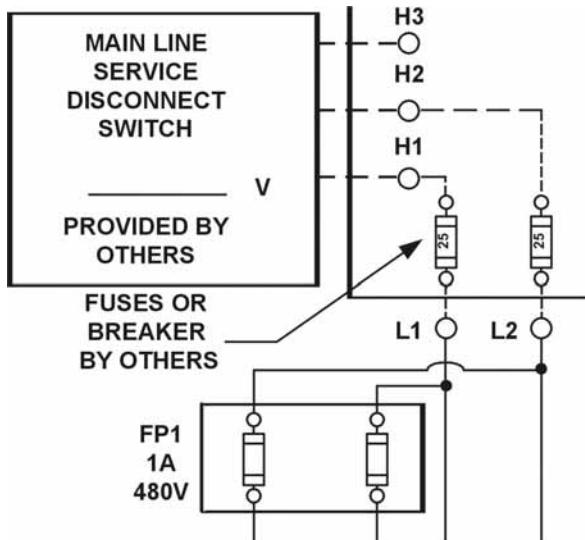

Figure 3-4
- 4) The fourth circuit is a separate fused circuit from the primary side of the power transformer terminals L1 and L2 to the FP1 fuse block on the drive side of the controller. [See Figure 3-4.]